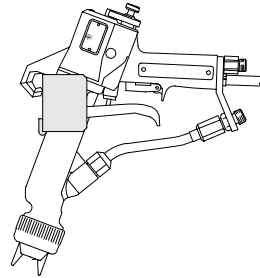

Fig. 7
11. Place the gun in its hanging bracket, with the nozzle pointing down as shown in Fig. 7, until it is used again.